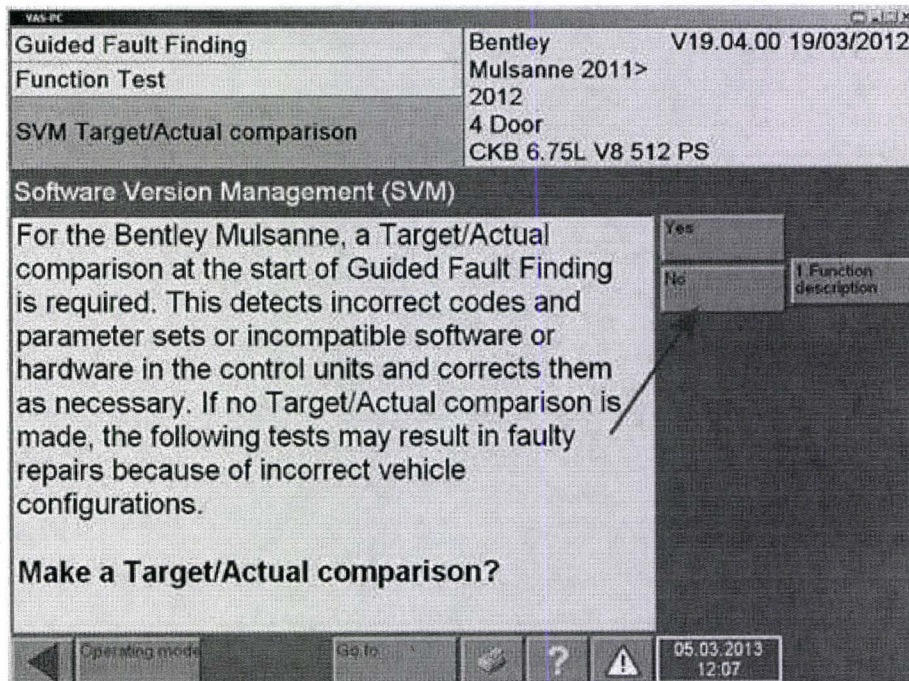

Figure 6
- When prompted to run a Target Actual Comparison, select **NO** (Figure 6)